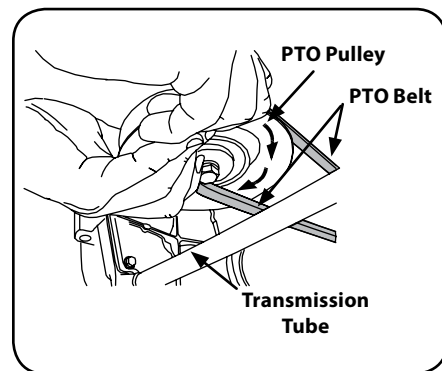

Figure 4-17
- d. While still holding the belt downward, continue turning the PTO pulley until the belt is rolled off the pulley. Refer to Figure 4-17.
11. Pull the right side of the belt rearward and place the narrow V side of the belt into the PTO pulley. See Figure 4-17.
12. While holding the belt and pulley together, rotate the pulley to the left (See Figure 4-17). Continue holding and rotating the pulley and belt until the belt is fully rolled into the PTO pulley.